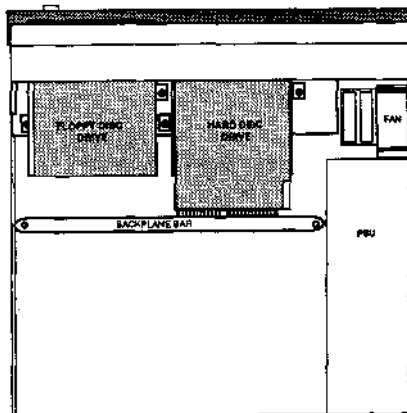

Figure 2: Unplugging the backplane
- 2 Unplug the backplane by removing the two screws, one on each side of the backplane support bar (see Figure 2). Take care when removing the screw next to the power supply as it can easily fall through the hole in the power supply's case.
- 1 Replace the backplane (if fitted) by inserting the backplane connector into socket SKI and pressing firmly. Then replace the screws, one at each end of the backplane support bar (see Figure 2). Take care when inserting the screw next to the power supply as it can easily fall through the hole in the power supply's case. If you are also replacing expansion cards, don't tighten the backplane screws yet.